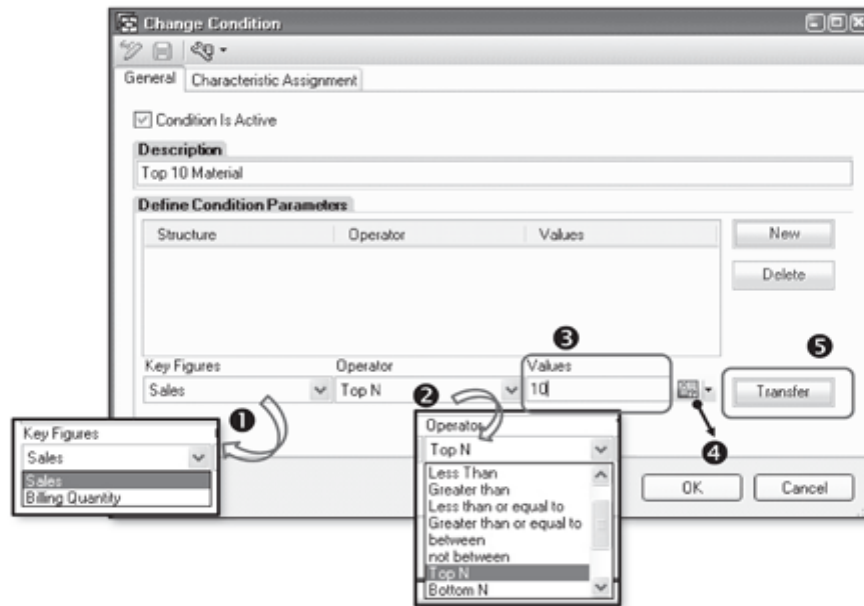
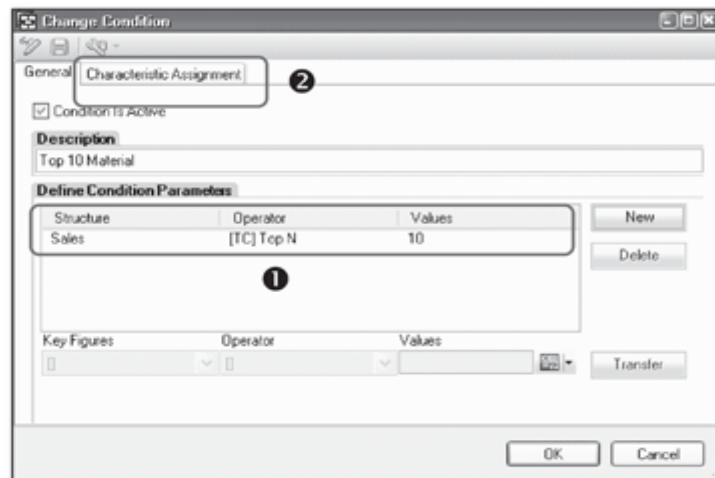

Figure 9.82 Define Condition Parameter
Figure 9.83 Go to Characteristic Assignment
4. Define the condition parameter as shown in Figure 9.82. You have to specify three fields to define a condition parameter. First select the key figure on which this condition should be applied (❶ of Figure 9.82). Then select an operator from the list of available operators for a condition (❷). For our example, we're selecting the operator Top N. (Had the requirement been to show only those materials where total sales is more than 1000 USD, you could have chosen the operator Greater Than.) Then select the value for the condition (❸). In this case, we have to display the top 10 materials, so we enter the value 10. However, you can make this condition more flexible by using a variable for the value (❹).
5. Click on the Transfer button (❺ of Figure 9.82) after the parameter is defined. The defined condition is now visible as shown in ❶ of Figure 9.83. Click on the Characteristic Assignment tab (❷) to configure more settings for the condition.